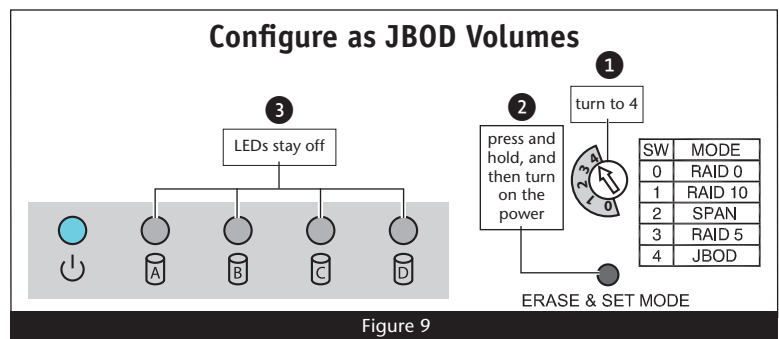

Figure 9
- to the 4 position for JBOD (Figure 9)